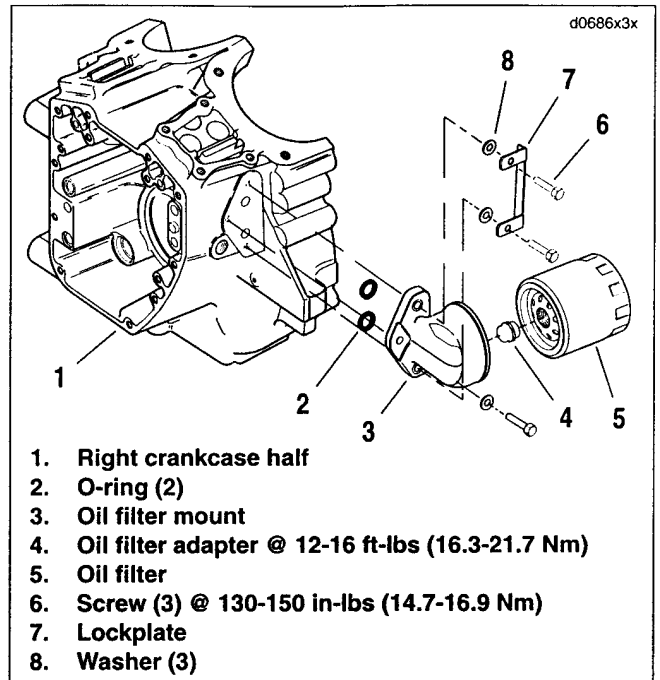

Figure 3-151. Oil Filter Mount Assembly
1. To catch any oil that may drain out of the engine, place a suitable container under the vehicle, directly under the oil filter mount on the front of the engine. See Figure 3-151.
2. See Figure 3-151. Remove oil filter (5) using **OIL FILTER WRENCH** (Part No. HD-42311 or HD-44067). Discard oil filter.
3. Remove oil filter adapter (4).
4. Bend tabs on lockplate (7) away from two hex screw heads. Remove three screws (6) securing oil filter mount to engine crankcase. Remove lockplate, washers (8) and oil filter mount.
5. Remove and discard two o-rings (2).
1. See Figure 3-151. Clean oil filter mount (3) and oil filter adapter (4) in a non-volatile cleaning solution or solvent. Clean the oil filter mount flange of any old gasket material. Remove any thread locking adhesive material from the threads of the oil filter adapter.
2. Coat threads of three filter mount screws (6) with **LOCTITE THREADLOCKER 243** (blue). Install filter mount with two **new** o-rings (2) and **new** lockplate (7) to crankcase with three screws and washers (8). Tighten screws to 130-150 in-lbs (14.7-16.9 Nm).
4. Coat the threads on one end of the oil filter adapter (4) with **LOCTITE THREADLOCKER 243** (blue).